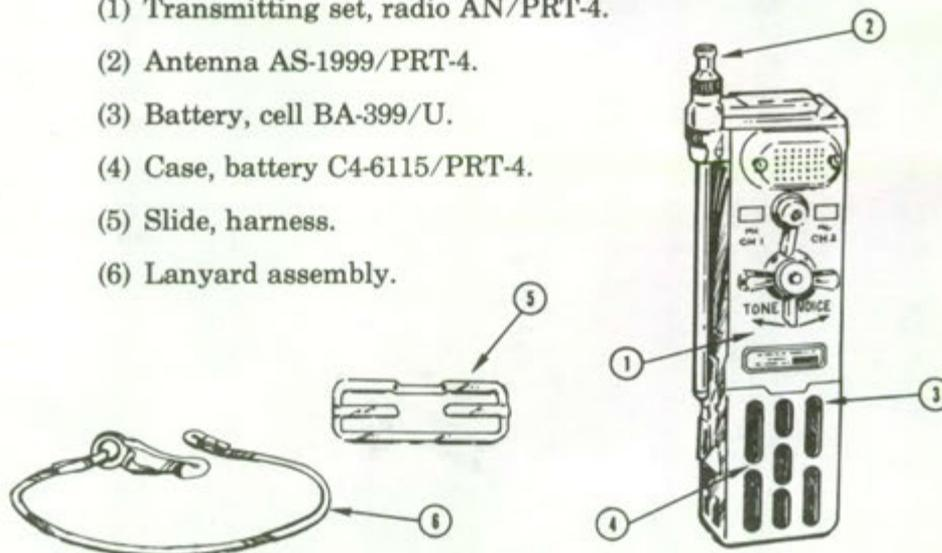

Figure 2. Transmitting set, radio AN/PRT-4 controls.
2. Transmitting Set, Radio AN/PRT-4 (figure 2).